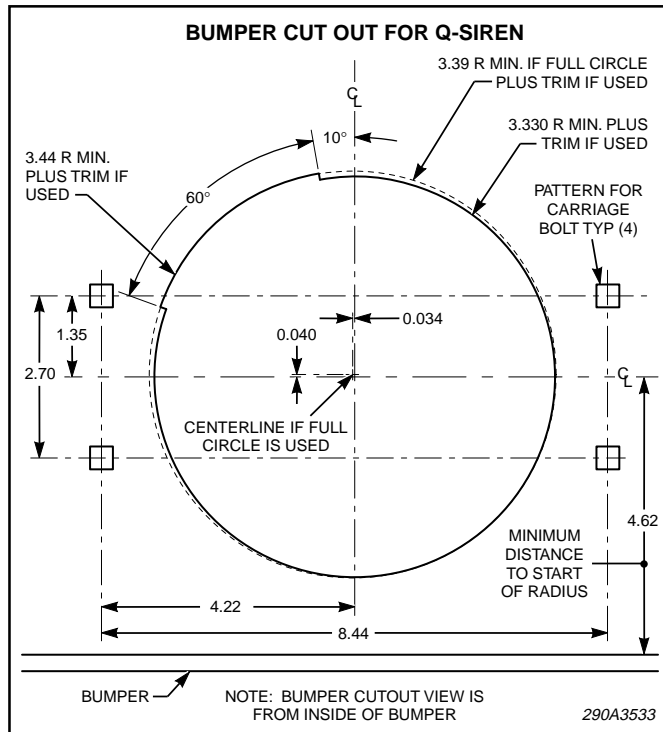

Figure 2.
a. Using figures 2 and 3 as a guide, determine the mounting location in the bumper. Also, ensure that there is adequate clearance behind the bumper.
- b. Cut the hole pattern in the bumper as shown in figure 2.